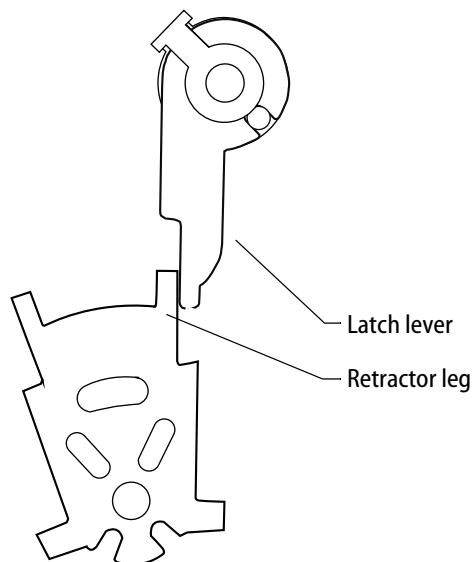

Figure 5
- 5 Make sure that the latch lever is on the outside of the fork leg. See Figure 5.